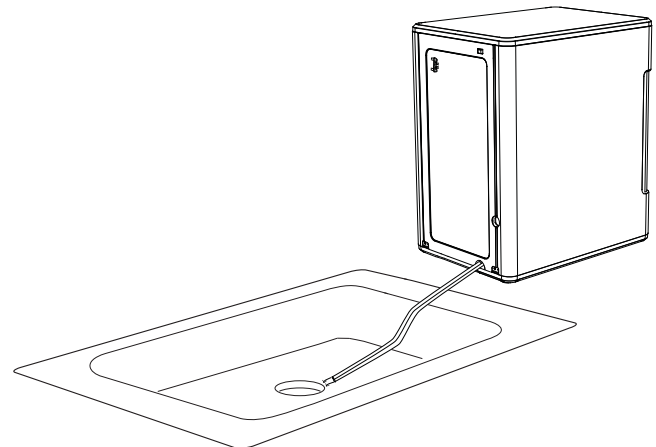

Figure 9
- Then lay them down to drain into a sink or bucket that is below the level of the ice maker. See figure 9 and 10.